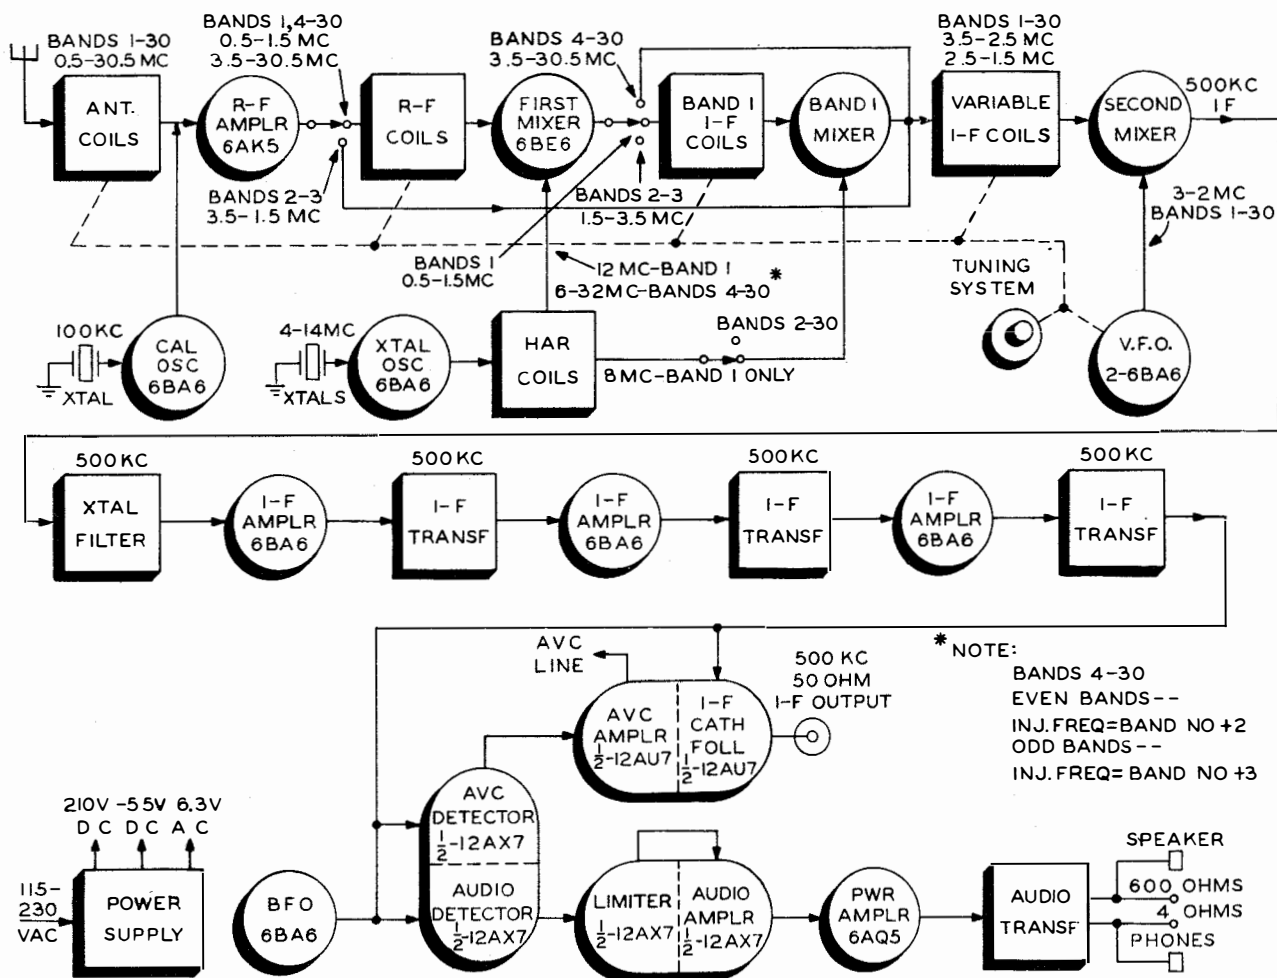

Figure 2-3. Overall Block Diagram
The receiver is a complete coverage superheterodyne receiver capable of AM and CW reception in the frequency range of 0.5 to 30.5 megacycles. The set covers the tuning range in 30 bands, each band one megacycle wide. Various portions of the tuning spectrum use single, dual, and triple conversion. Three stages of intermediate-frequency amplification and a crystal filter produce the desired degree of selectivity. The receiver also features a low impedance avc, noise limiter, two stages of audio amplification, and a 100-kc frequency spotter or calibrator. See figure 2-3.
a. RADIO FREQUENCY AMPLIFICATION. - One stage of radio frequency amplification is used on all bands. See block diagram, figure 2-3. The circuit is a conventional r-f amplifier circuit employing a miniature r-f pentode tube 6AK5(V101). This tube